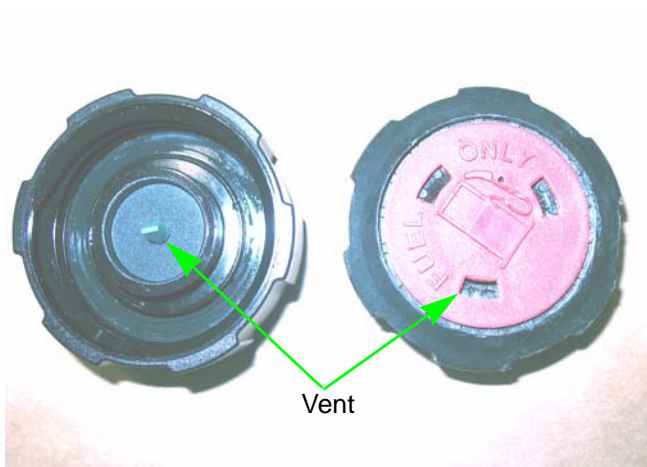

Figure 5.2
4. The fuel cap is vented. Ensure that the vent is clean and working properly. See Figure 5.2.